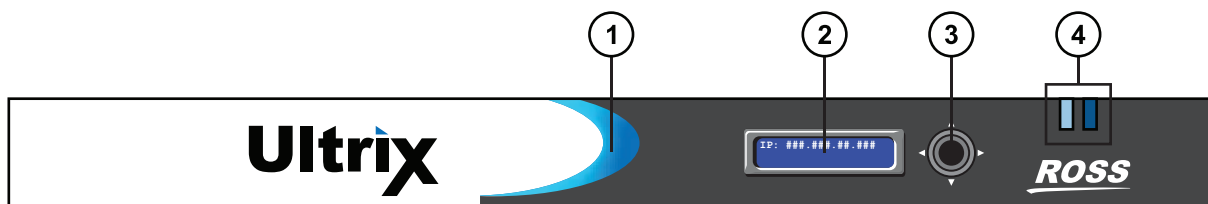

Figure 3 Front Panel — ULTRIX-NS-FR1
★ The ULTRIX-NS-FR1 and ULTRIX-NS-FR2 have updated frame components to allow the support of more advanced IO modules such as ULTRIX-IPX-IO. The ULTRIX-NS-FR1 and ULTRIX-NS-FR2 may be identified by the blue dot above the i on the front panel Ultrix logo (**Figure 3**).
The Ultrix router is designed to be operated with the door closed to ensure adequate cooling via the fans. The front panel includes the same features regardless of the router model. **Figure 3** shows an ULTRIX-NS-FR1.
- ★ The ULTRIX-NS-FR1 and ULTRIX-NS-FR2 routers can be identified by the Ultrix logo on the front door with an "i" with a blue dot. Refer to **Figure 3** for an example of the ULTRIX-NS-FR1 front door.